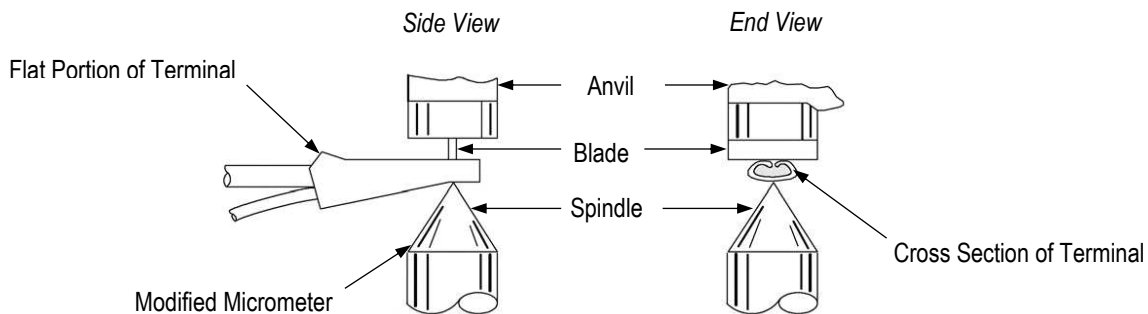

Figure 16
1. Inspect the termination for conformance to the requirements given in Figure 16, Detail A.
2. Using a crimp height micrometer, measure the crimp height of the termination as shown in Figure 16, Detail B. The crimp height must be within ± 0.08 mm [± 0.003 in.] of the measurement specified for the type of terminal and wire size being used.